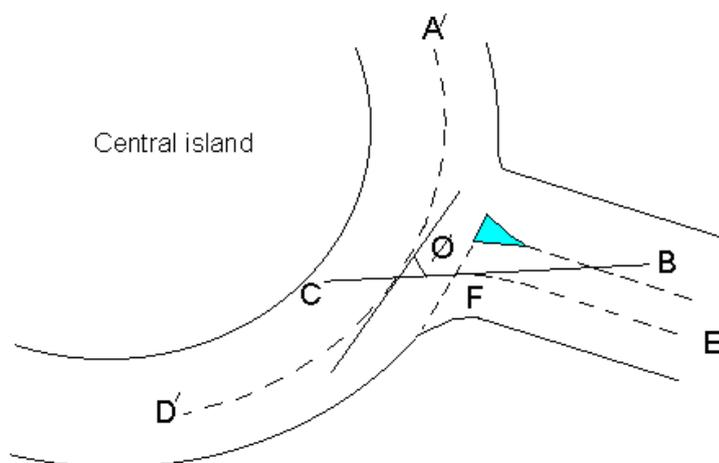

Figure 23-3
**For conventional roundabouts (i.e. those with identifiably parallel-sided weaving sections, where the arms are well separated),** the angle measured is in effect that between the projected path of an entering vehicle and the path of a circulating vehicle. The construction is illustrated in Figure 23-3.
If it is not clear which of the two methods should be used, the following should clarify the situation. All three vehicle paths (entry, exit and circulatory carriageway medians) should be constructed, and the entry and exit paths projected towards the roundabout centre. The choice of construction for **PHI** depends on where these projections meet: if the meeting point is closer to the centre of the roundabout than the arc of the circulatory carriageway median, then the construction for conventional roundabouts as shown in Figure 23-3 should be used; if they meet outside that area, then the construction for small roundabouts as illustrated in Figure 23-4 should be used. In the limiting case where all three medians intersect at a point, it is common for the circulatory carriageway median approximately to bisect the angle between the other two medians, so that the two methods become equivalent